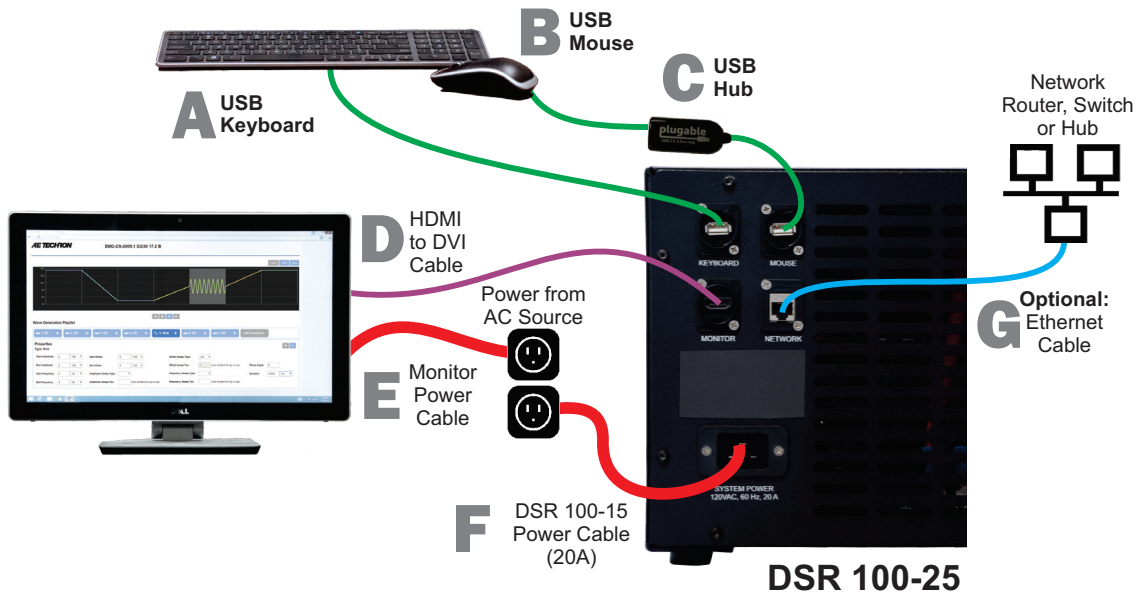

Figure 2.3 – Connecting the 3110A Cables and Accessories on the DSR 100-25
**DSR 100-25 Connections:** Complete the following steps to connect the 3110A cables and accessories provided to the DSR 100-25 back panel. Refer to **Figure 2.3** for component locations.